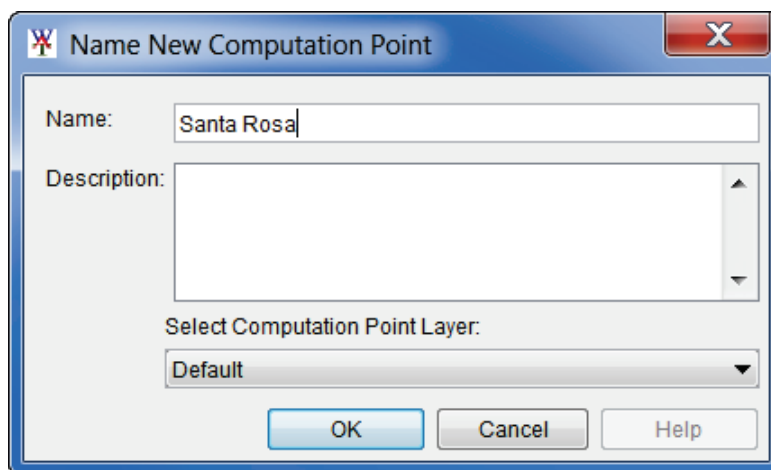

**Figure 6.6** Import Computation Points Dialog Box
- From the HEC-WAT main window, from **Maps** menu, point to **Import**, click **Computation Points**. The **Import Computation Points** dialog box will open (Figure 6.6). The **Shapefile Name** list defaults to the first point shapefile that HEC-WAT can find in the *maps* directory of a study; which happens to be the shapefile that represents the CCPs for the *Russian River* study - *RR\_CommonComputationPoints.shp*.
2. From the **Database Field Name** list (Figure 6.6), select the field name in the attribute file that contains the names of the CCPs - **ID\_Name**. Once a field name is selected, the table below the **Database Field Name** list (Figure 6.6) will populate with the CCPs contained in the shapefile. If there is an issue with any of the CCPs, the checkbox in the Import column will not be selected.
3. Click **Import**, the **Import Computation Points** dialog box will close (Figure 6.6). Once the import of the CCPs is completed, a message window will appear letting you know that the CCPs have been imported successfully. In the active **Map Window** the CCPs appear as black circles.